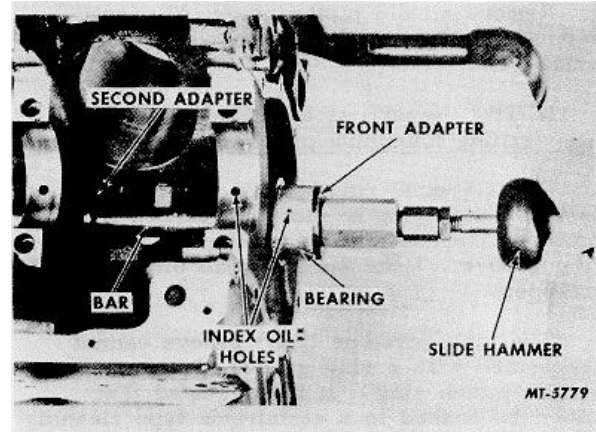

Fig. 100 Installing Front Camshaft Bearing
7. Remove bar and front adapter. Position new bearing on front adapter with chamfered side toward case. Slide bar into case and through second adapter serving as a pilot (Figure 100).
8. Align oil holes and drive in front bearing (Figure 100).